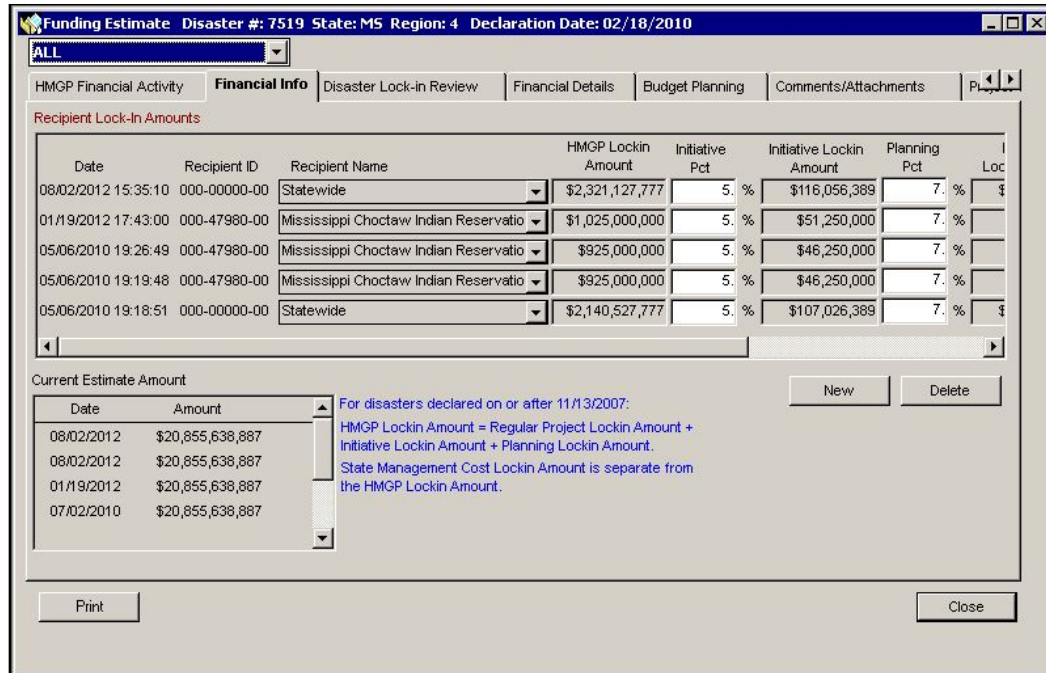

Figure 5-12: Mitigation > Funding > Estimate > Financial Info Tab
1. Click the **Financial Info** tab. At the top left of the tab, select either the Recipient, if only one, or "ALL," if more than one, from the Recipient drop-down list (Figure 5-12).
As displayed in Figure 5-12, the top row is the latest revision and is the current amount.